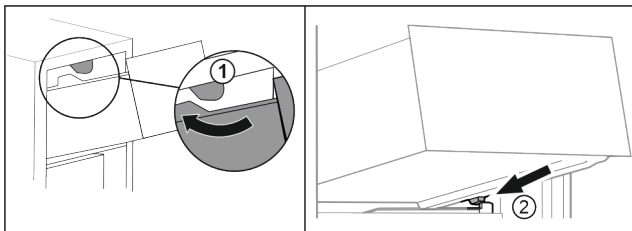

Fig. 26
- ▶ Guide drawer around the upper stoppers. Fig. 26 (1)
- ▶ Place drawer at an angle behind the lower stoppers on the molded rib. Fig. 26 (2)